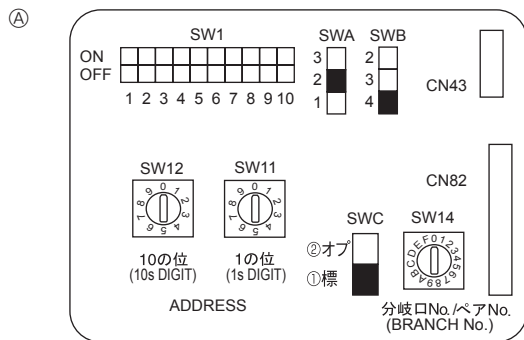

Fig. 5-4
5.5. Setting addresses (Fig. 5-4)
5.6. Switch setting for high ceiling or at the time of changing the number of air outlets (Fig. 5-4)
④	4 direction	2.5 m	2.7 m	3.5 m
③	3 direction	2.7 m	3.0 m	3.5 m
②	2 direction	3.0 m	3.3 m	3.5 m
5.7. Sensing room temperature with the built-in sensor in a remote controller (Fig. 5-4)